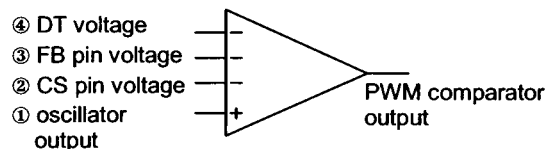
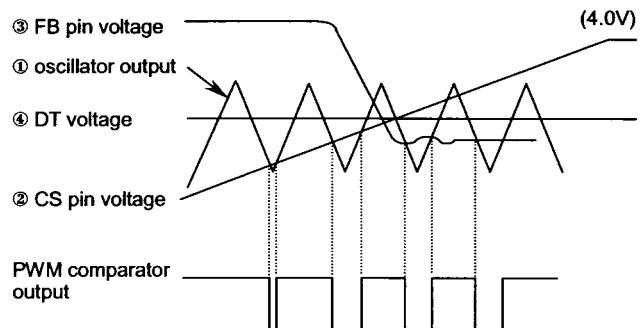

Fig.4 PWM comparator
Fig.5 PWM comparator timing chart
(3) PWM comparator
The PWM comparator has four inputs as shown in Figure 4. Oscillator output ① is compared with CS pin voltage ②, FB pin voltage ③, and DT voltage ④. The lowest of three inputs ②, ③, and ④ has priority and is compared with output ①. While the voltage is lower than the oscillator output, the comparator output is high. While the voltage is higher than the oscillator output, the PWM comparator output is low (see figure 5). The IC OUT pin voltage is high while the PWM comparator output is low. When the IC is powered up, CS pin voltage ② controls soft start operation. The output pulse then begins to widen gradually. During normal operation, the output pulse width is determined within the maximum duty cycle (70%) set by DT voltage ④ under the condition set by FB pin voltage ③, to stabilize the output voltage.